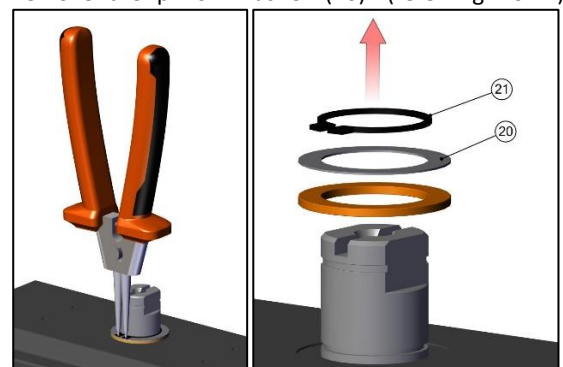

Fig No.17
- a) Remove the Circlip (21) using a Circlip plier.
b) Remove the pinion washer (20). (refer fig no.17)